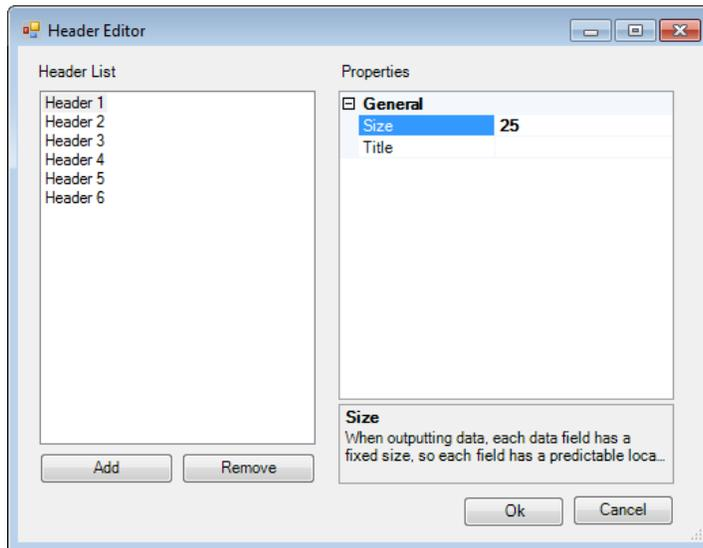

Figure 14: Header Editor Window
1. Click *Columns*, and then click the  button that appears to open the *Header Editor* window (*Figure 14*).